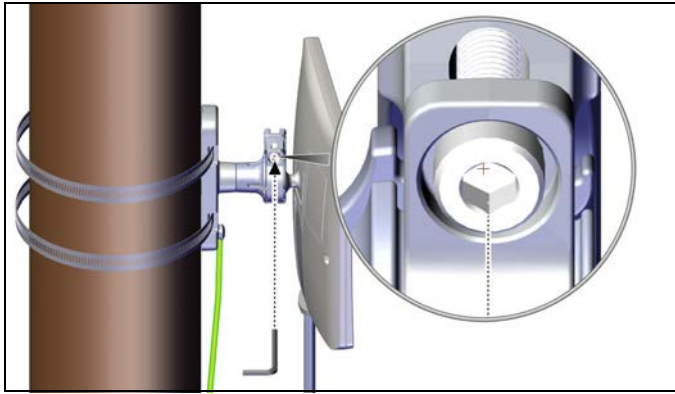

Figure 2-41: Use hex screw to further tighten arm on mount
- If the unit requires more tightening, use the hex screw with a 5mm hex key as shown in Figure 2-41.